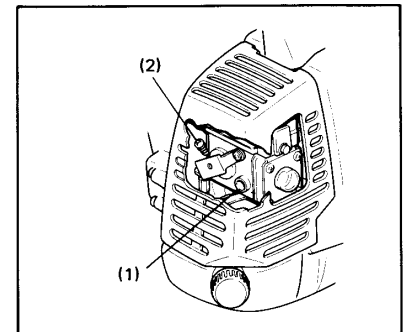

Fig. 15
4. Next with the engine at wide open throttle turn the "H Screw" (1) clockwise or counterclockwise to achieve the maximum engine speed. Then turn the "H Screw" counterclockwise 1/4 turn. Now, the H screw should be set between 1 -1/4 and 1 -3/4 turned counterclockwise from lightly seated position. (See Fig. 15)
5. Appropriate idle speed is the position where blade does not turn or engine does not stall. When the idle speed is too low or too high, adjust it with idle screw (2). (See Fig. 15)